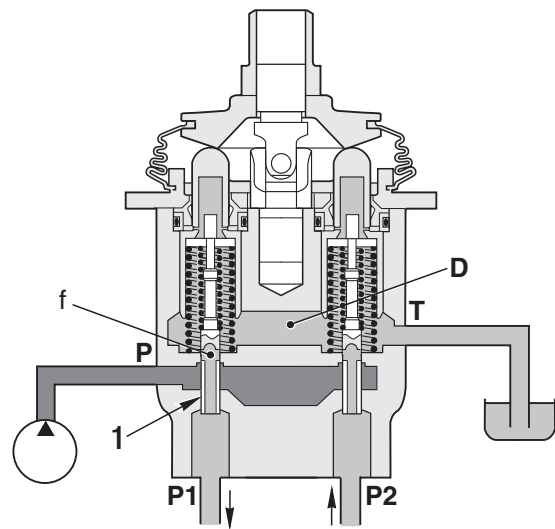

Fig. 1
Ports **P1** and **P2** of the PPC valve are connected to drain chamber **D** through fine control hole **f** in spool (1). (Fig. 1).
- When piston (4) starts to be pushed by disc (5), retainer (9) is pushed; spool (1) is also pushed by metering spring (2), and moves down.